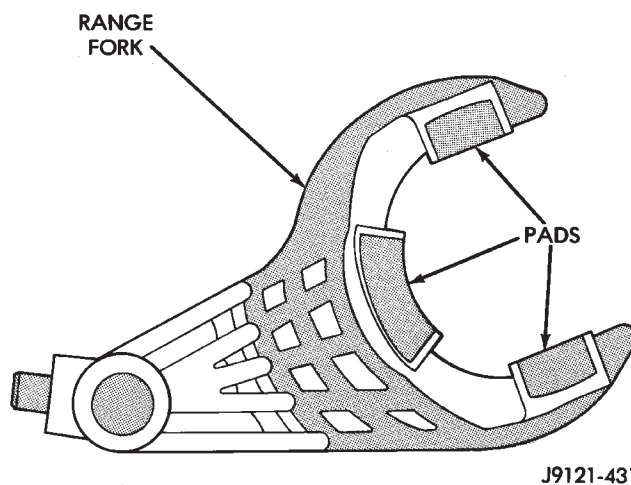

Fig. 50 Range Fork Pad Locations
(5) Inspect pads on range fork (Fig 50). Be sure pads are secure and in position. Replace fork as an assembly if pads are worn through, or broken.